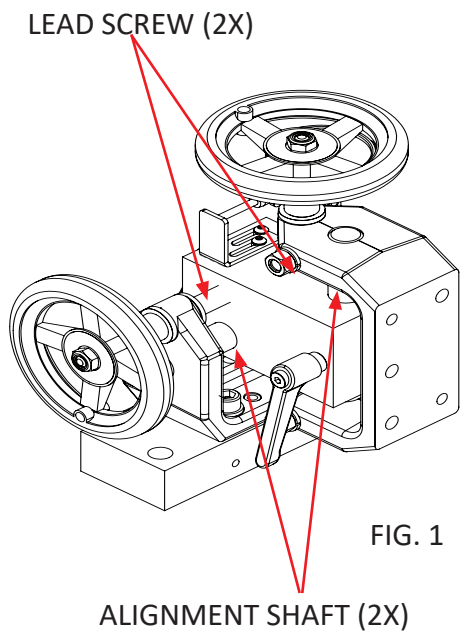

FIG. 1
3. Wipe and re-lube the vertical and horizontal alignment shafts and lead screws with Never-Seez™ every six months. See FIG. 1.